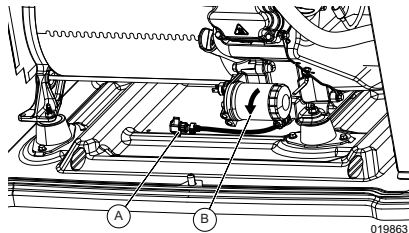
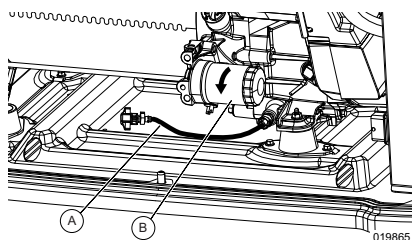
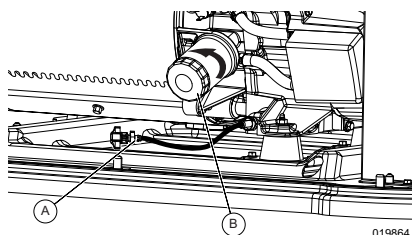

Figure 4-1. Oil Filter and Drain Location (10 kW)
Figure 4-2. Oil Filter and Drain Location (14–18 kW)
Figure 4-3. Oil Filter and Drain Location (22–28 kW)
5. See Figure 4-1, Figure 4-2, or Figure 4-3. Remove front panel when unit has cooled. Pull oil drain hose (A) free of retaining clip. Remove cap from oil drain hose and place free end into a suitable container. Drain oil.